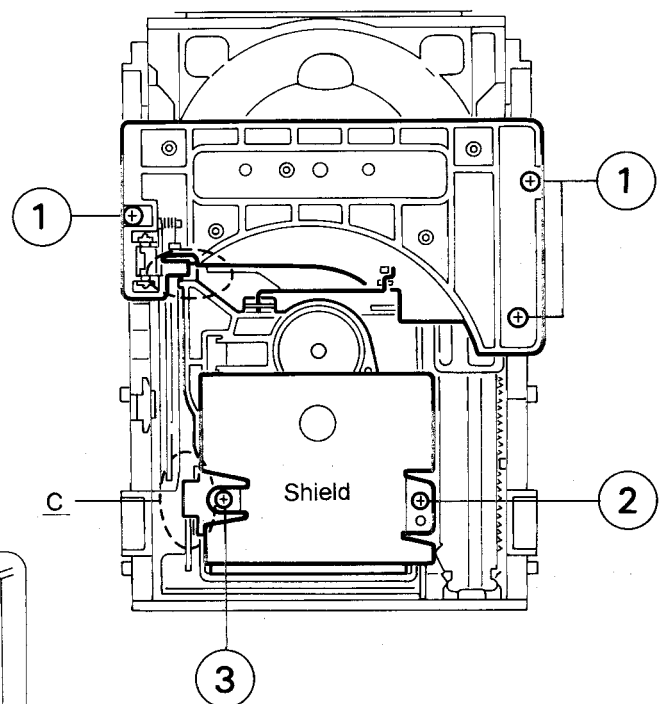
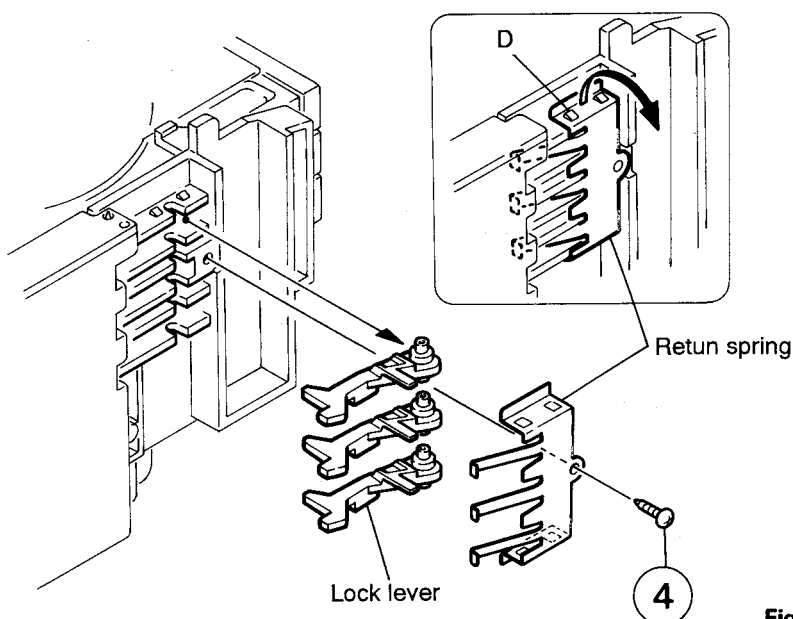

Fig. 5-19
Fig. 5-20
6. Remove the two screws (2 and 3) retaining both of the shield and clamber assembly (See Fig. 5-19).
7. Remove the shield from the section (C) retaining the clamber assembly (See Fig. 5-19).
8. From the left side face of the chassis assembly, remove the one screw (4) retaining both of the return spring and lock lever.
9. By removing the pawl at the section (D) fixing the return spring, dismount the return spring (See Fig. 5-20).